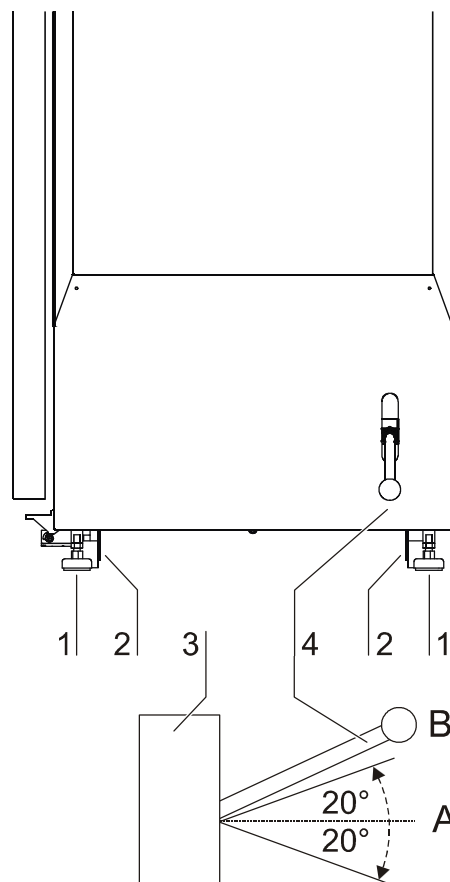

Fig. 2,
**Fig. 2:** The adjustable stands are moved using a manual hydraulic pump [3] at the right face of the device. To save space, the pump lever is detached for shipping.